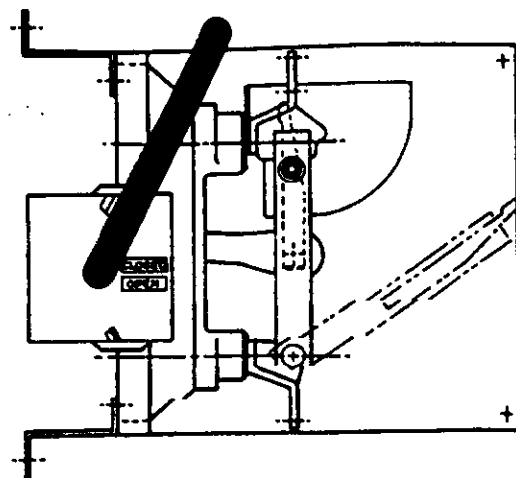

Fig. 5 Handle "UP" in switch closed position.
The component parts for this type of arrangement are shown in Fig. 5. The switch and frame are mounted vertically in the enclosure. The arc chute interrupter is situated above the blade hinge. The switch has a direct drive operator and the handle is mounted on the left side of the enclosure. The handle is in the "UP" position with the switch closed for this arrangement.
- a. Mount the frame-mounted switch (Fig. 5) in the enclosure. Check to be sure the 2-3/32" dimension from frame-mounting holes to outside of enclosure (per Dwg. S-20149) has been maintained.
- d. Move handle to the "UP" or closed position as shown in Fig. 5 and engage hub and key of handle with the shaft extension and keyway of the stored-energy device.